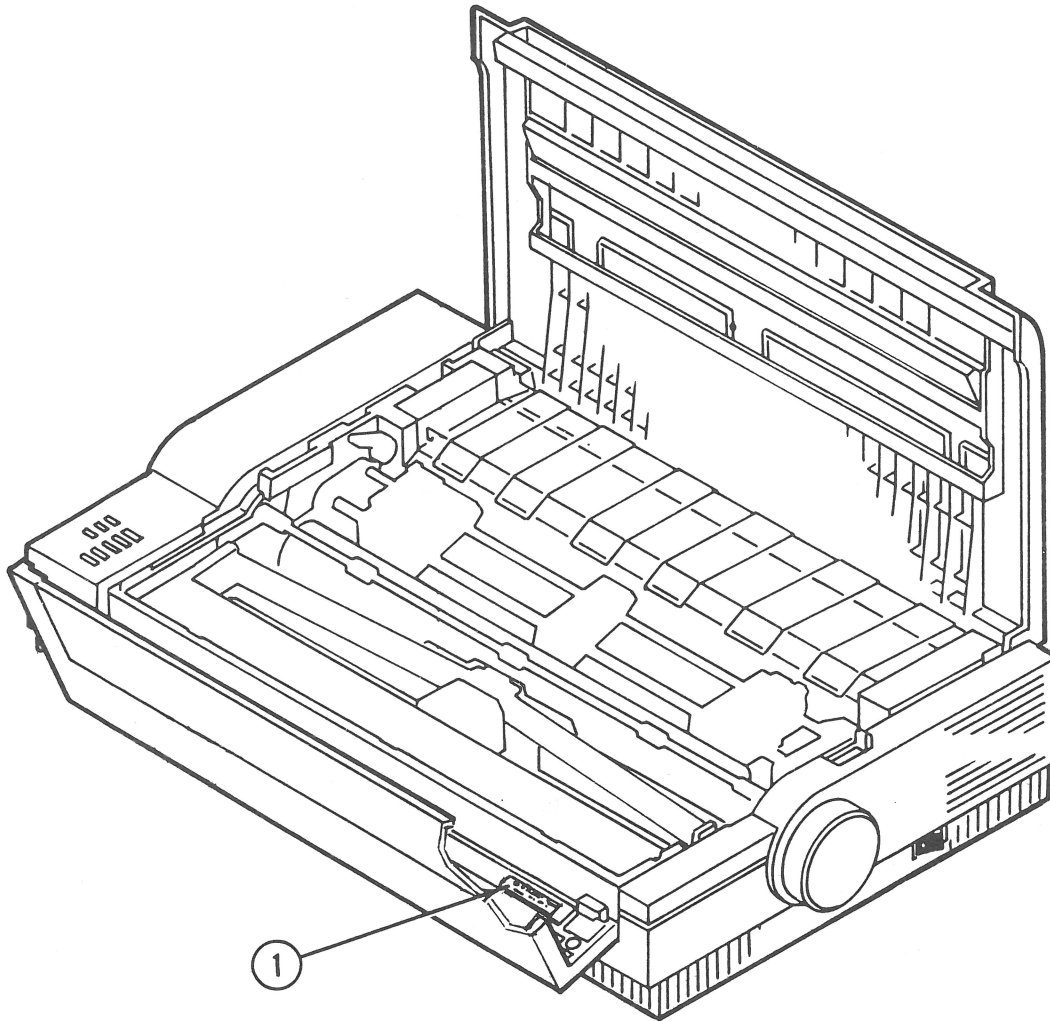

FIGURE 25
4. Position the rework label on the right side (Figure 25, #1) of the front cover.